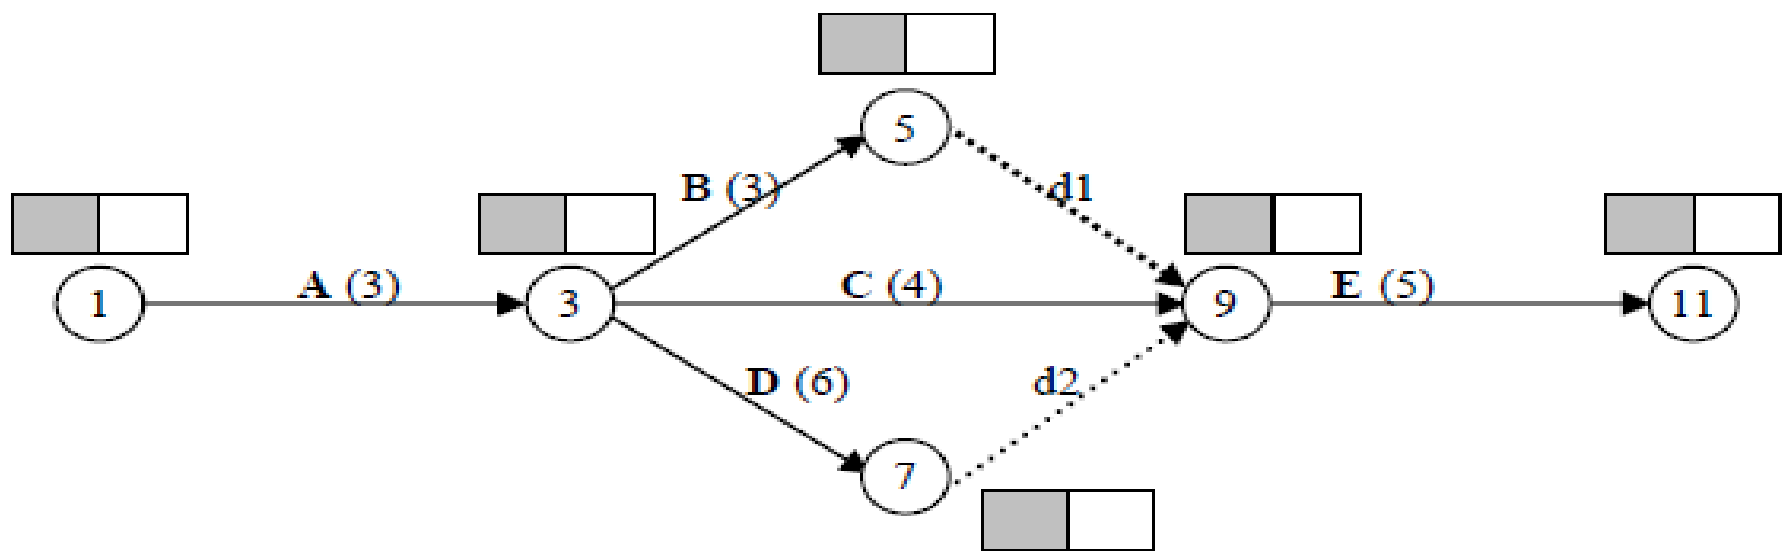

Figure 2: Preparation for the forward path
- ❖ The forward path precedes from the most left node in the network (node 1-Figure 2) and moves to the right, putting the calculations inside the shaded boxes to the left.